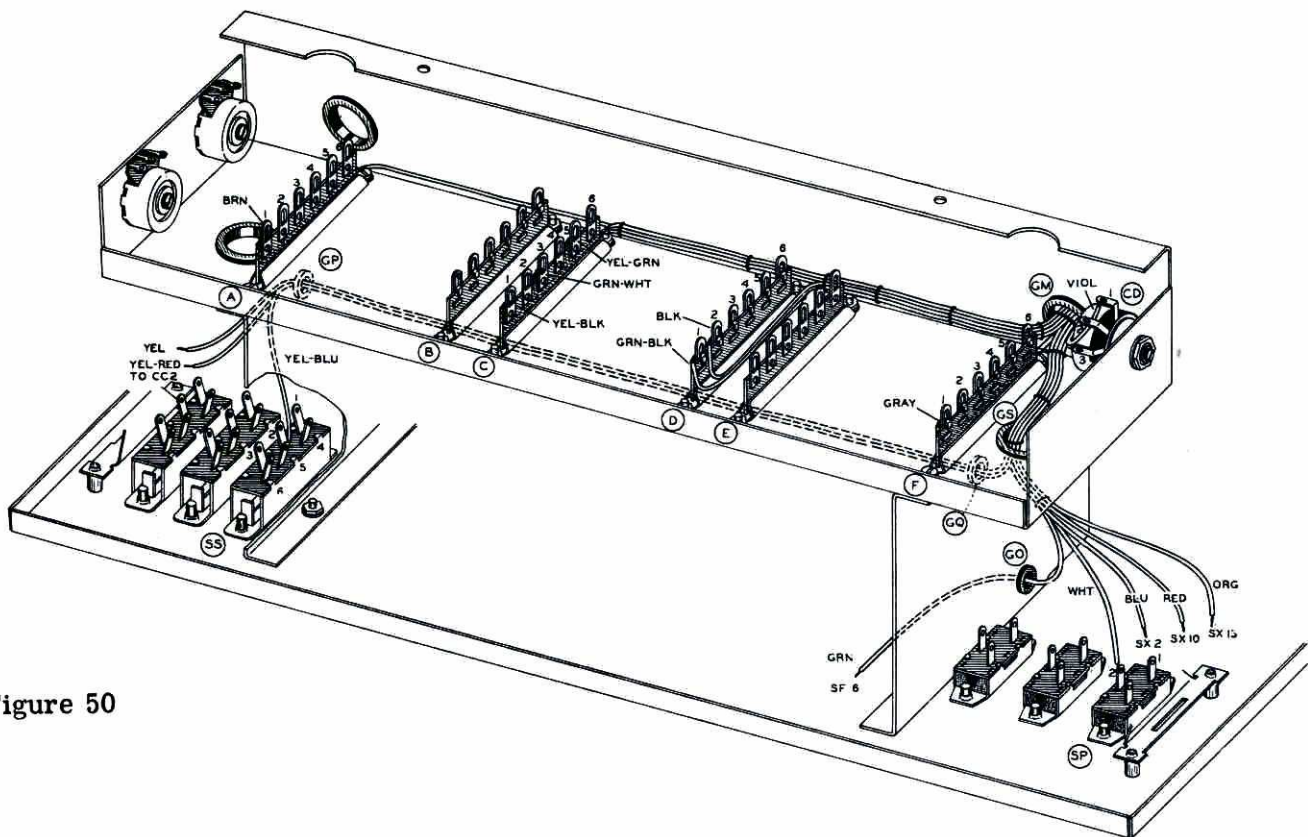

Figure 50
- () Pass the remaining leads through GQ and GP. See Figures 50 and 52.